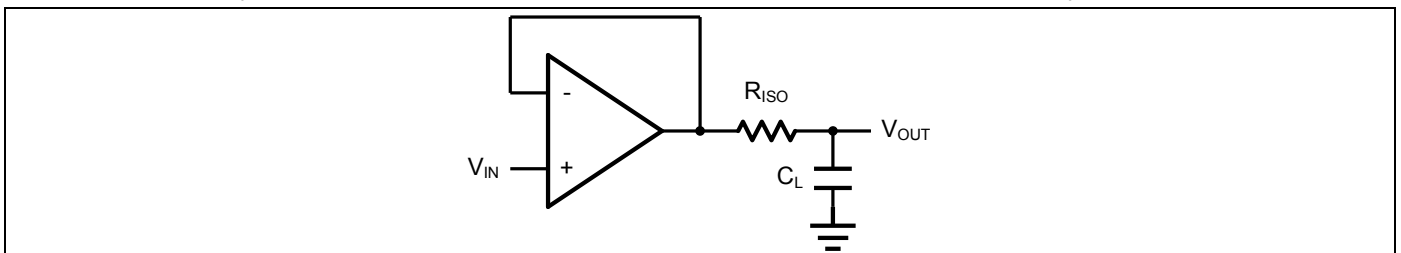
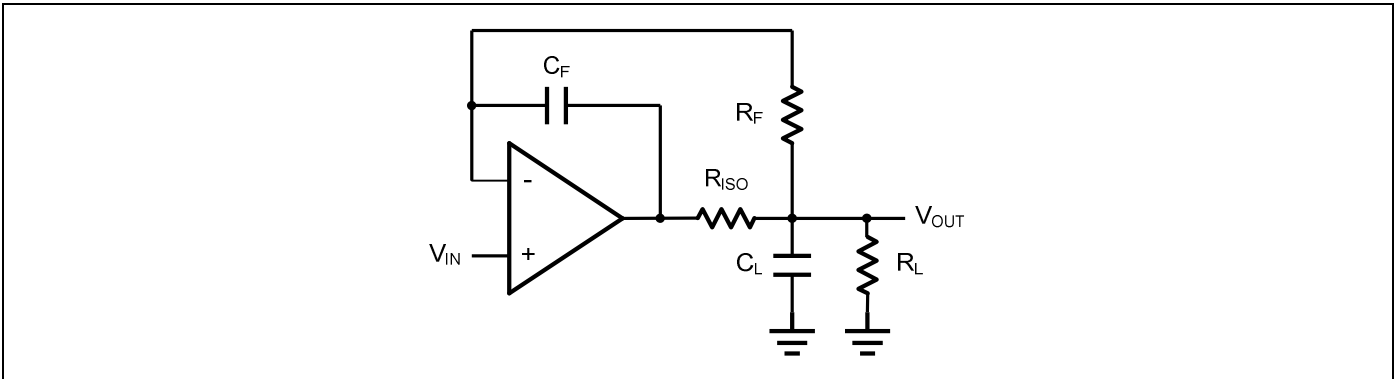

Figure 2. Indirectly Driving a Capacitive Load Using Isolation Resistor
Figure 3. Indirectly Driving a Capacitive Load with DC Accuracy
The HGV805X family is optimized for bandwidth and speed, not for driving capacitive loads. Output capacitance will create a pole in the amplifier's feedback path, leading to excessive peaking and potential oscillation. If dealing with load capacitance is a requirement of the application, the two strategies to consider are (1) using a small resistor in series with the amplifier's output and the load capacitance and (2) reducing the bandwidth of the amplifier's feedback loop by increasing the overall noise gain. Figure 2. shows a unity gain follower using the series resistor strategy. The resistor isolates the output from the capacitance and, more importantly, creates a zero in the feedback path that compensates for the pole created by the output capacitance.
The circuit in Figure 3 is an improvement to the one in Figure 2. R_F provides the DC accuracy by feed-forward the V_{IN} to R_L . C_F and R_{ISO} serve to counteract the loss of phase margin by feeding the high frequency component of the output signal back to the amplifier's inverting input, thereby preserving the phase margin in the overall feedback loop. Capacitive drive can be increased by increasing the value of C_F . This in turn will slow down the pulse response.